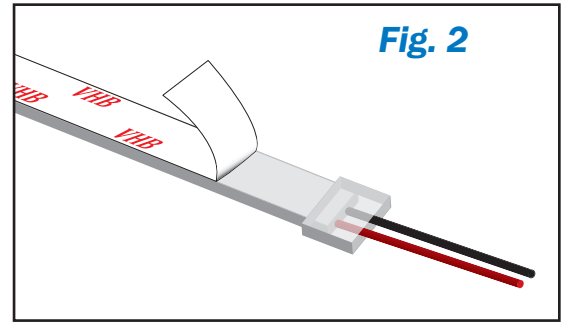

Fig. 2
- 3 Peel backer of VHB Tape to reveal adhesive (Fig. 2)